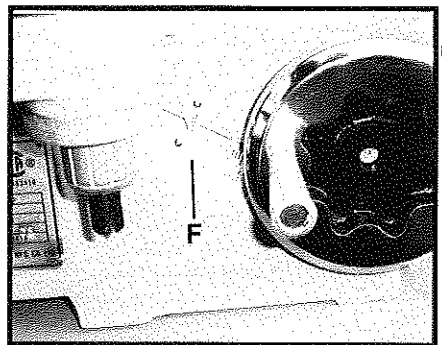

Fig. 10
6. The depth of cut adjustment can be read on the depth scale (F), located at the front of the Infeed table (Fig.10)